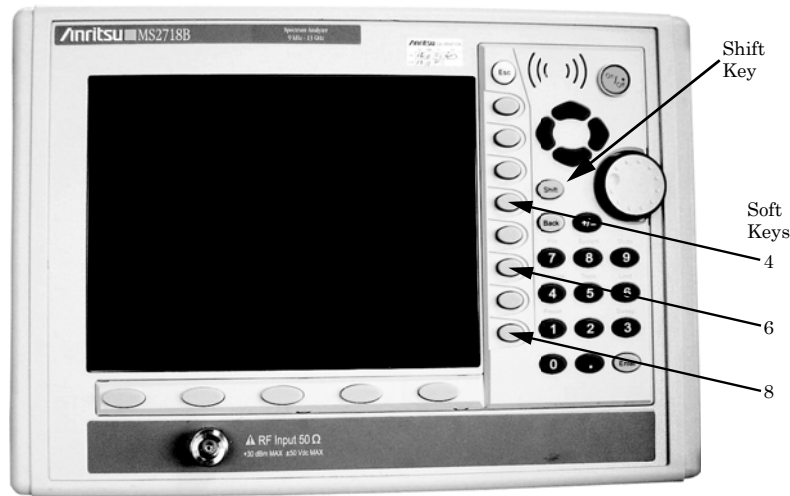

Figure 4-2. Service Mode Key Combination on MS2718B, MS2719B
3. Set the MS2718B, MS2719B to Spectrum Analyzer mode, then press **Shift** and press **Preset** (1) to preset the MS2718B, MS2719B.
11. Press and hold the **Shift** key and simultaneously press three soft keys together (from the top, the 4th, 6th, and 8th unmarked vertical keys below the **Esc** key) in order to enter into the Economy Spectrum Analyzer Service Mode (Figure 4-2).